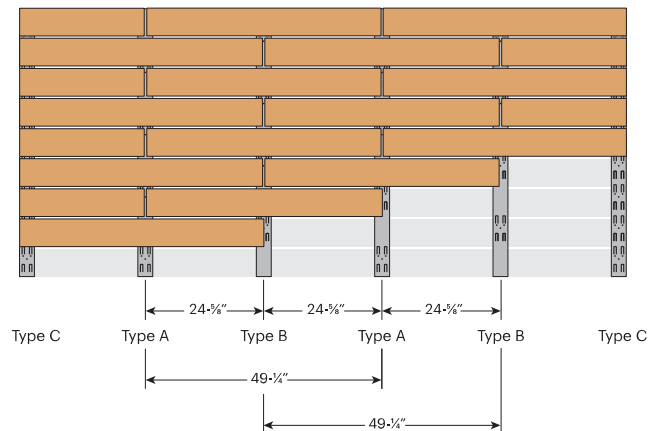

FIG. H8
- In an offset layout, the profiles will alternate between Type A, and Type B. The on center spacing from Type A to Type A and Type B to Type B will be 49.2" (1250mm). Note: Type C profiles are still required inside corners, outside corners, window jambs, and all other side terminations. (FIG. H8)